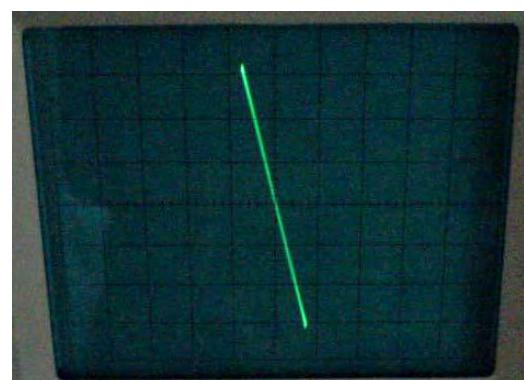

Fig. 15
- Now, move the mirror away from the operating unit as long as you see a straight-line sloping into the opposite direction (Fig. 15). Note this position of the mirror as x_2 .